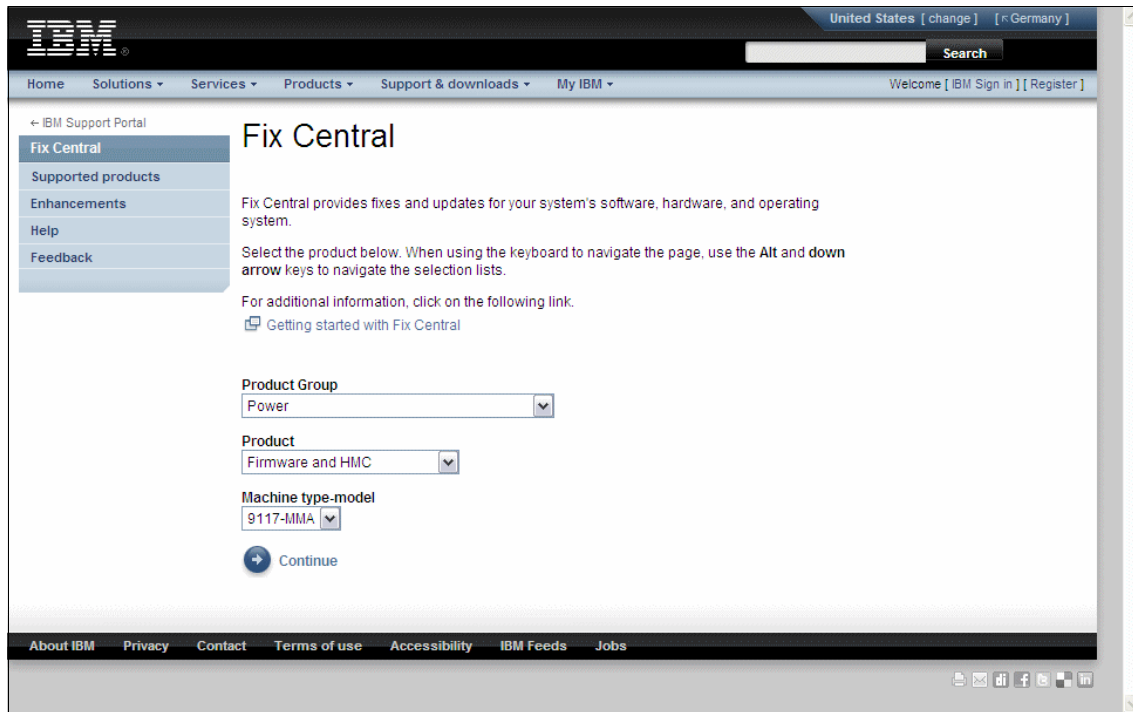

Figure 11-14 IBM Fix Central website
4. Select **Power** for Product Group, **Firmware and HMC** for Product, enter your corresponding Machine type-model, and click **Continue** as shown in Figure 11-14.